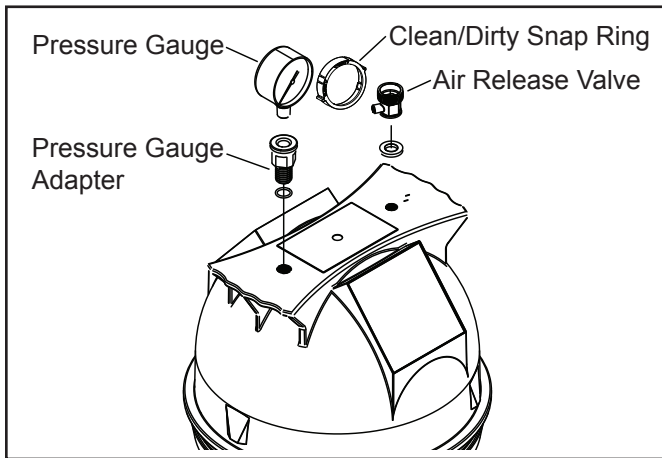

Figure 4. Pressure Gauge and Pressure Release Assembly
4. Install the pressure gauge and adapter assembly to the threaded hole marked "Pressure Gauge" at the top of the filter (see Fig. 4).
5. Install the air release valve into the threaded opening marked "Air Release" at the top of the filter (see Fig. 4).